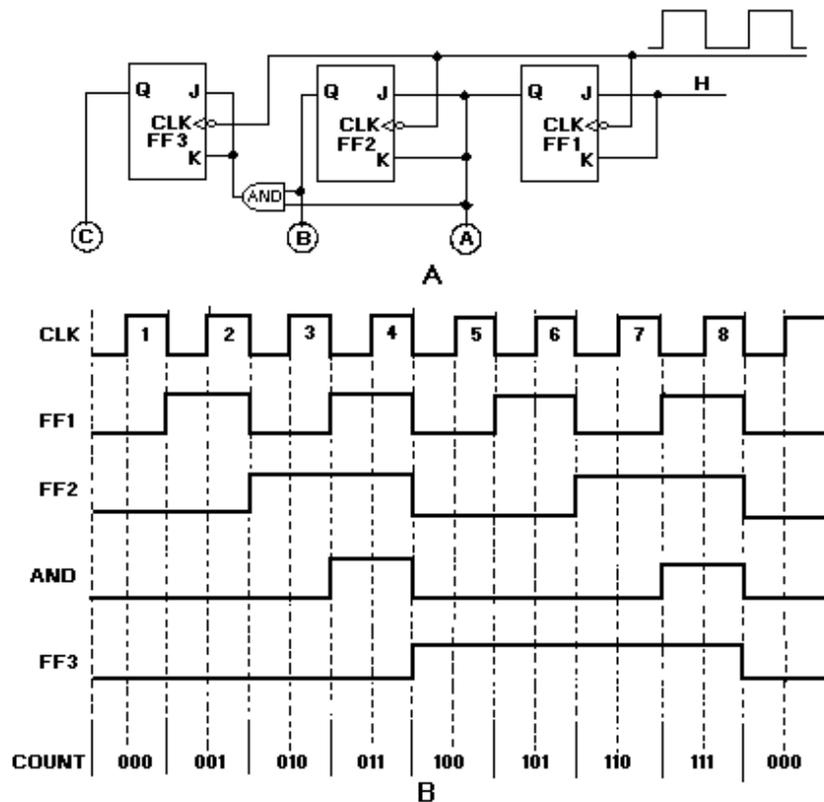

Figure 3-24. —Three-stage synchronous counter: A. Logic diagram; B. Timing Diagram.
A logic diagram of a three-stage (modulo-8) synchronous counter is shown in figure 3-24, view A. The clock input is wired to each of the FFs to prevent possible errors in the count. A HIGH is wired to the J and K inputs of FF1 to make the FF toggle. The output of FF1 is wired to the J and K inputs of FF2, one input of the AND gate, and indicator A. The output of FF2 is wired to the other input of the AND gate and indicator B. The AND output is connected to the J and K inputs of FF3. The C indicator is the only output of FF3.
*Q41. In figure 3-24, view A, what logic element enables FF3 to toggle with the clock?*